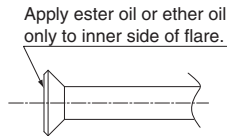

Fig. 4
- **Apply ether oil or ester oil only to inner side of the flare** and screw in the flare nut three to four turns first by hand at the time of connecting the flare nut. (Refer to Fig. 4)